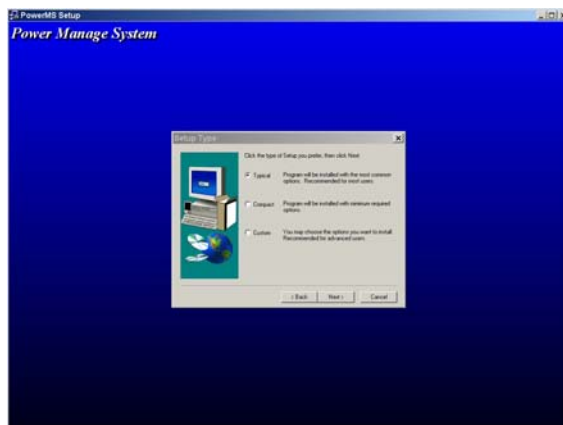

Fig. 3-5 The Installation Window
3.1.5 In Fig. 3-5, the installation type is selected. Normally, most users will select "TYPICAL". Click the mouse on "NEXT" to continue.